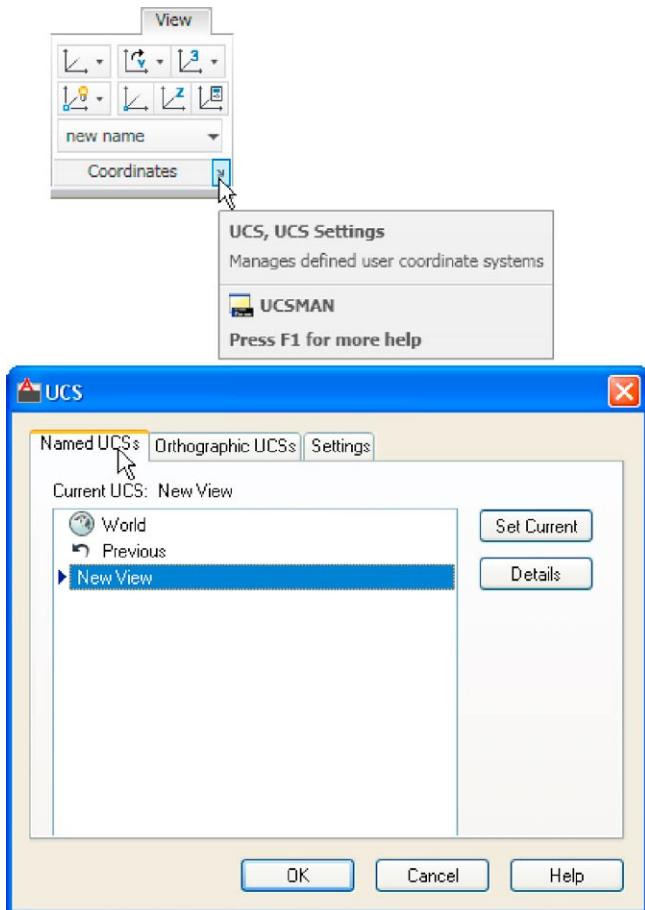

Fig. 17.18 The UCS dialog
*Click the **UCS Settings** arrow in the **View/Coordinates** panel and the **UCS** dialog appears. Click the **Named UCSS** tab of the dialog and the names of views saved in the drawing appear (Fig. 17.18).*